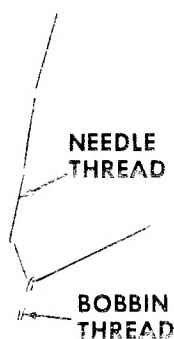

Fig. 16. Drawing Up the Bobbin Thread
- Draw up needle thread; bobbin thread will come up with it through hole in throat plate, as shown in Fig. 16.